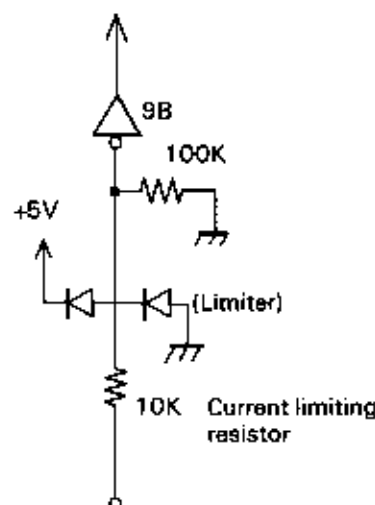

Fig. 2-110
- The 10 kohm current limiting resistor inserted on the receive signal line as shown in Fig. 2-110 protects the connected device from excess current or voltage drop. The next voltage limiter circuit, consisting of two diodes, and converts the RS-232C line levels from the mating transmitter to the 0/+5V TTL levels. The 100 kohm resistor pulls the limiter output down to ensure that the inverter IC 9B to functions properly.